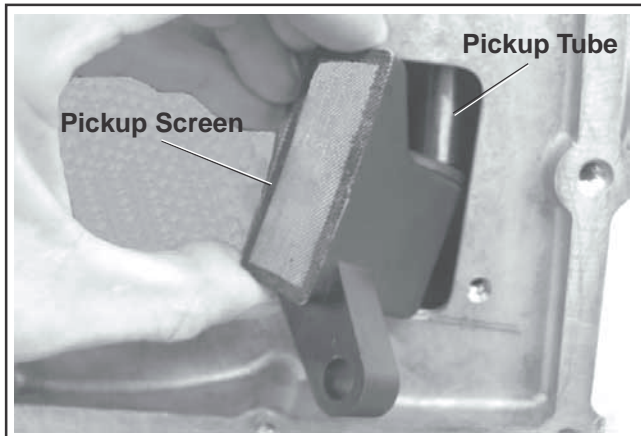

Figure 10-32. Installing Pickup Screen.
1. Apply a small amount of oil to the grommet of the pickup screen and insert it onto the lower end of pickup tube within the crankcase. Secure the pickup to the boss on the bottom of crankcase. Torque the mounting screw to **10.7 N·m (95 in. lb.)** into a new hole, or **7.3 N·m (65 in. lb.)** into a used hole. See Figures 10-32 and 10-33.